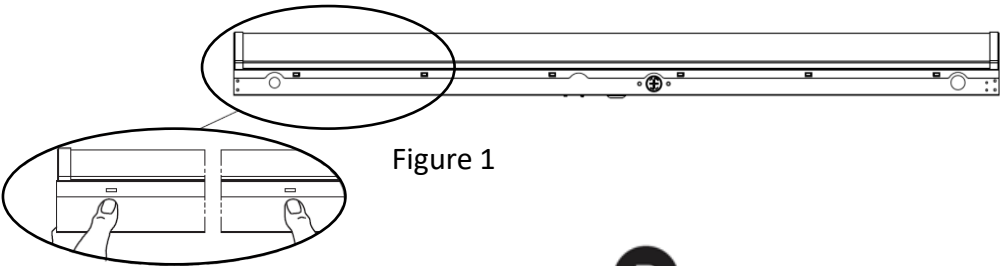

Figure 1
1. Open the fixture by pressing the sides of the fixture base (A) inward below the locations of the tabs along the side of the fixture (fig.1).